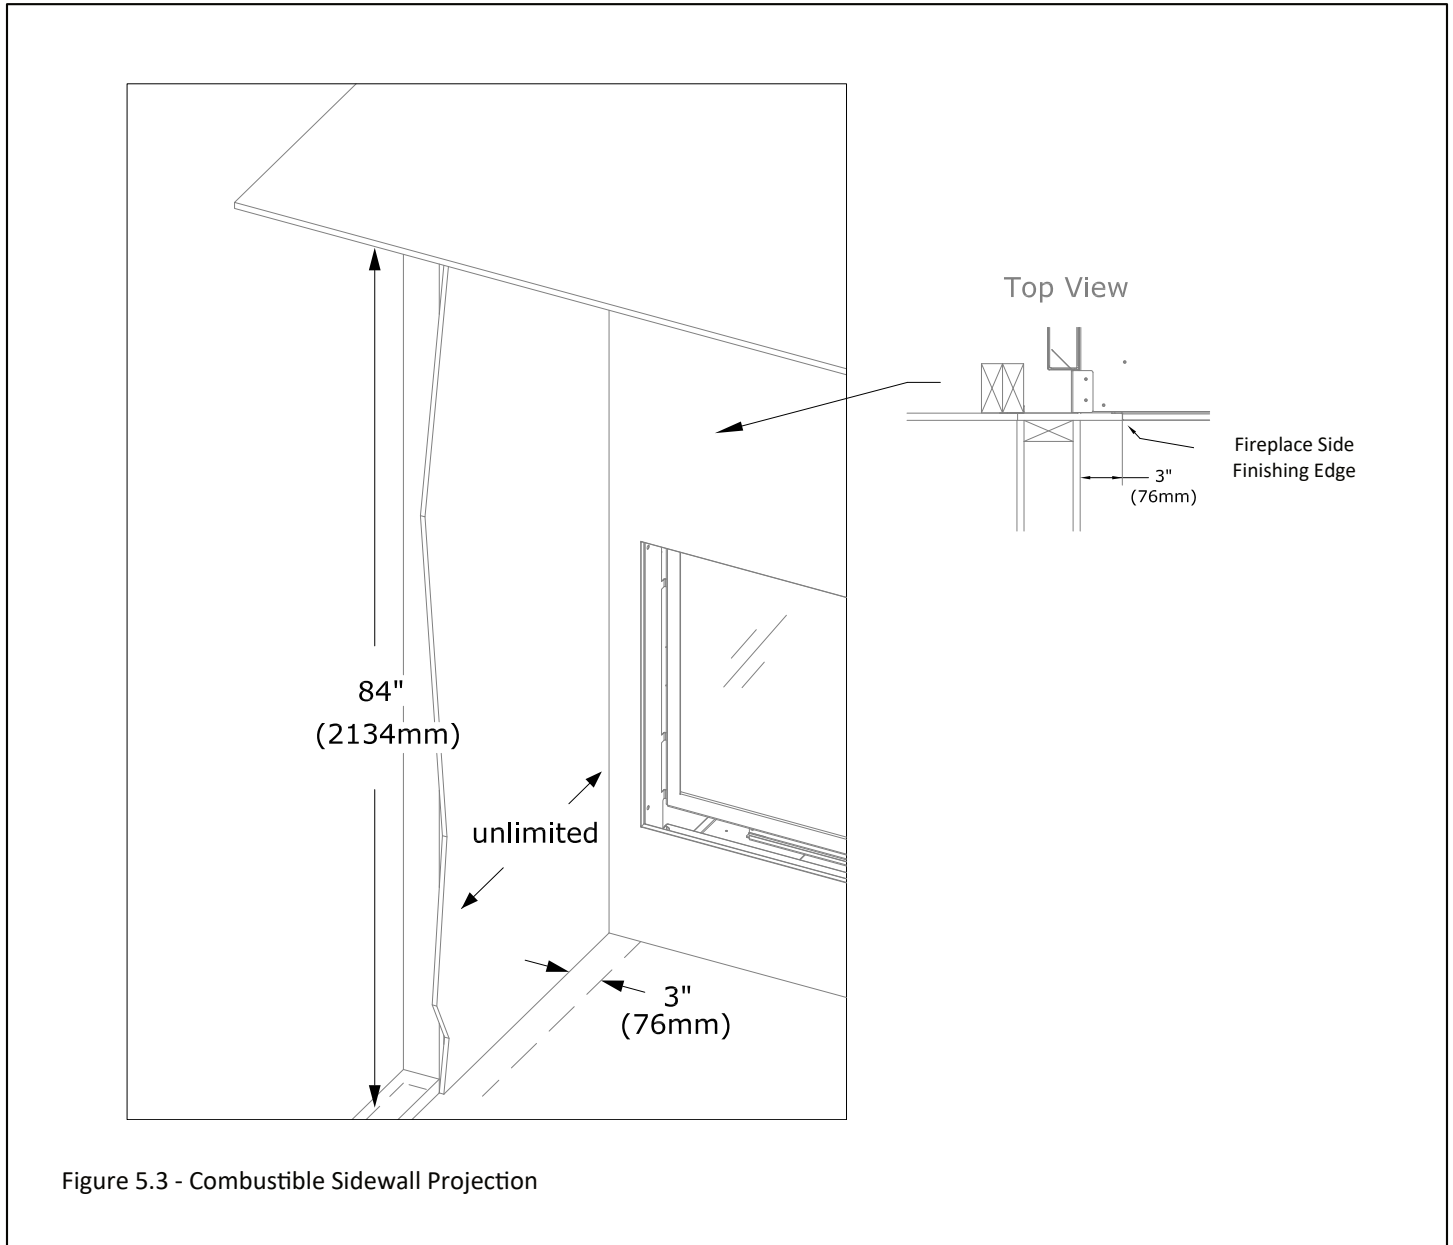

Figure 5.3 - Combustible Sidewall Projection
- Mantel Leg: Follow "Combustible Sidewall Clearance" below. See Figure 5.3.
- Combustible Sidewall Clearance: the adjacent sidewall projection is unlimited and starts at 3" (76mm) from the side finishing edge of the fireplace. See Figure 5.3.
Figure 5.3 shows that a combustible sidewall can start at 3" (76mm) from the side finishing edge of the fireplace. The combustible sidewall is allowed to be unlimited.